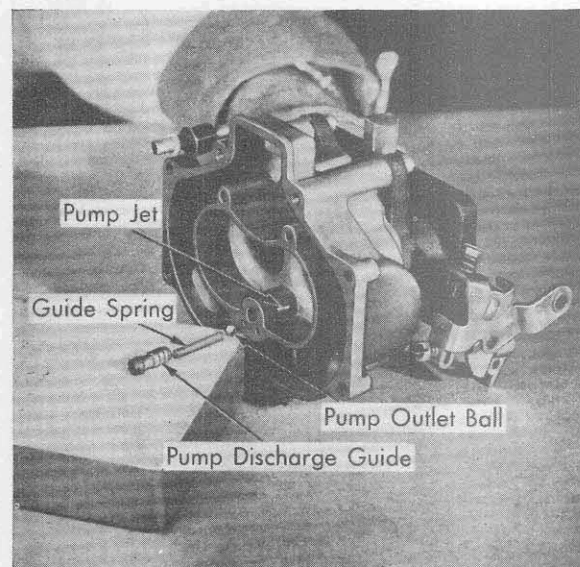

Figure 9
2. Install large steel ball in pump discharge cavity. Place spring and pump discharge guide on top of ball. (Figure 9)